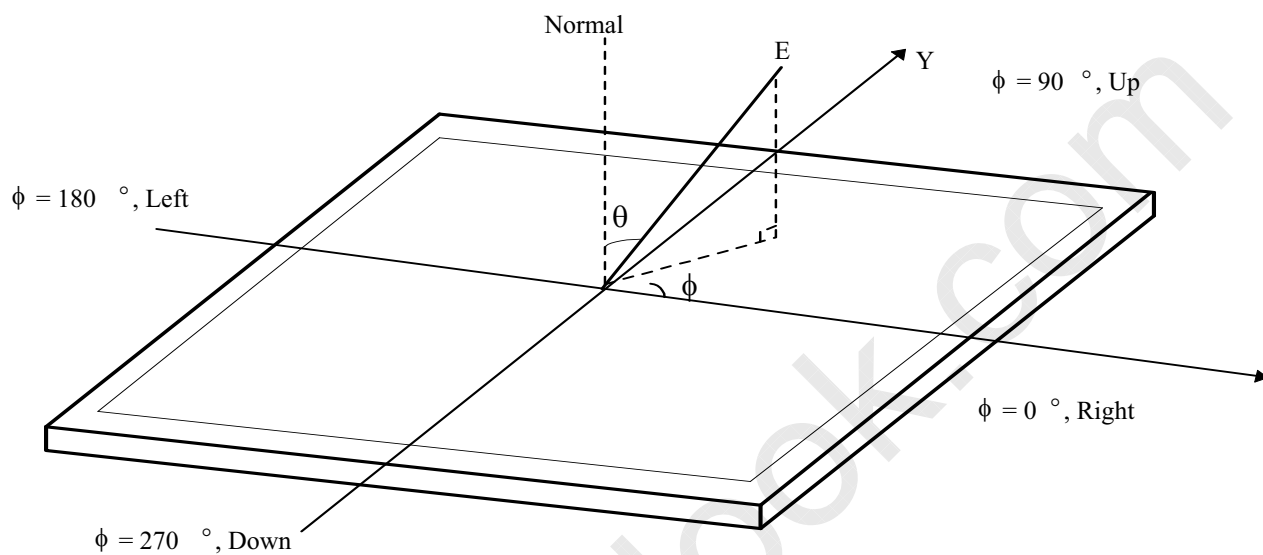

FIG.12 Viewing Angle
- Response time is the time required for the display to transit from G(255) to G(0) (Rise Time,  $Tr_R$ ) and from G(0) to G(255) (Decay Time,  $Tr_D$ ).
- Viewing angle is the angle at which the contrast ratio is greater than 10. The angles are determined for the horizontal or x axis and the vertical or y axis with respect to the z axis which is normal to the LCD module surface. For more information, see the FIG. 12.